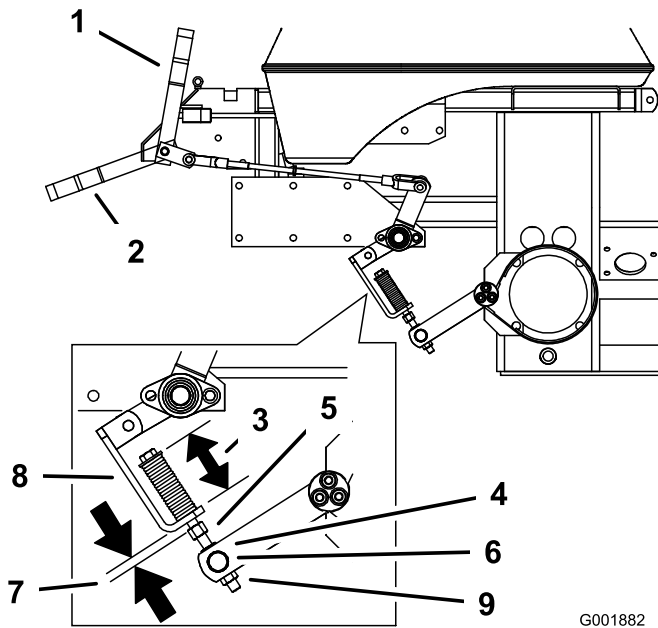

Figure 62
2. Measure the length of the spring. The measurement should be 2-3/4 inch (70 mm) between the washers (Figure 62).
3. If an adjustment is necessary, loosen the jam nut below the spring and tighten the nut directly below the yoke (Figure 62). Turn the nut until the correct measurement is obtained. Tighten the two nuts together and repeat on the opposite side of the unit.
6. Measure the distance between the spring bracket and the adjusting nut under spring bracket. The measurement should be 1/4-5/16 inch (5-8 mm) (Figure 62).
7. If an adjustment is necessary, loosen the jam nut directly above the trunion roller. Turn the lock nut below the trunion roller until the correct measurement is obtained (Figure 62).
8. Tighten the jam nut directly above the trunion roller (Figure 62).